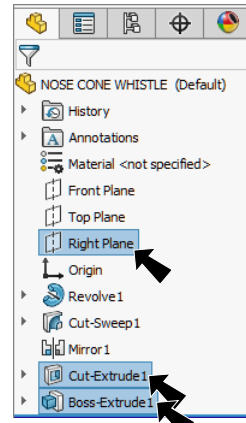

Fig. 42
Step 1. Ctrl click **Right Plane** , **Cut-Extrude1** and **Boss-Extrude1** in Feature Manager to select all three, **Fig. 42**.